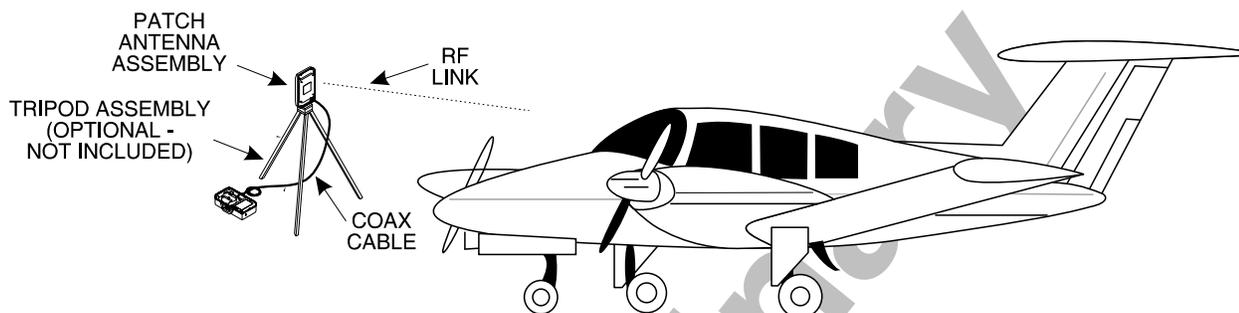

Figure F-3. Typical Patch Antenna Tripod Mount
- b. Mount the chassis lid, with the Patch Antenna facing the aircraft, onto a tripod (not included). The tripod must be capable of holding the antenna (approximately 2.5 lb.) and must provide a standard base mounting stud threaded 1/4"-20. A typical tripod mount is shown in figure F-3.